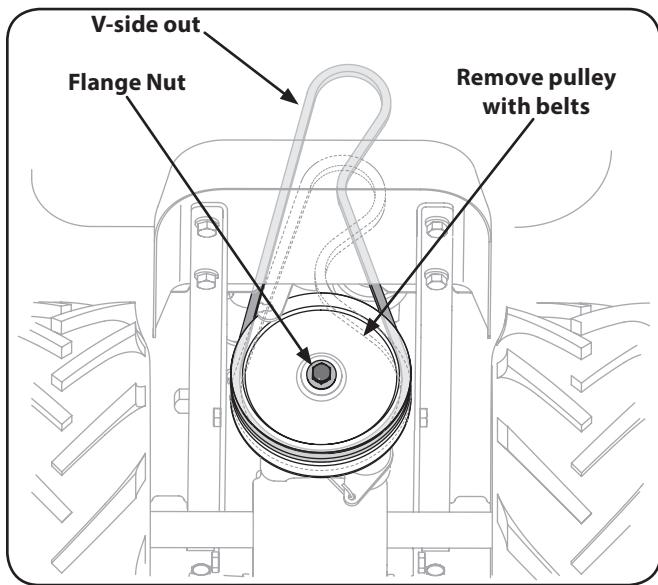

Figure 7-5
6. Remove the flange nut securing the transmission drive pulley, then remove the pulley along with the two belts. See Figure 7-5.